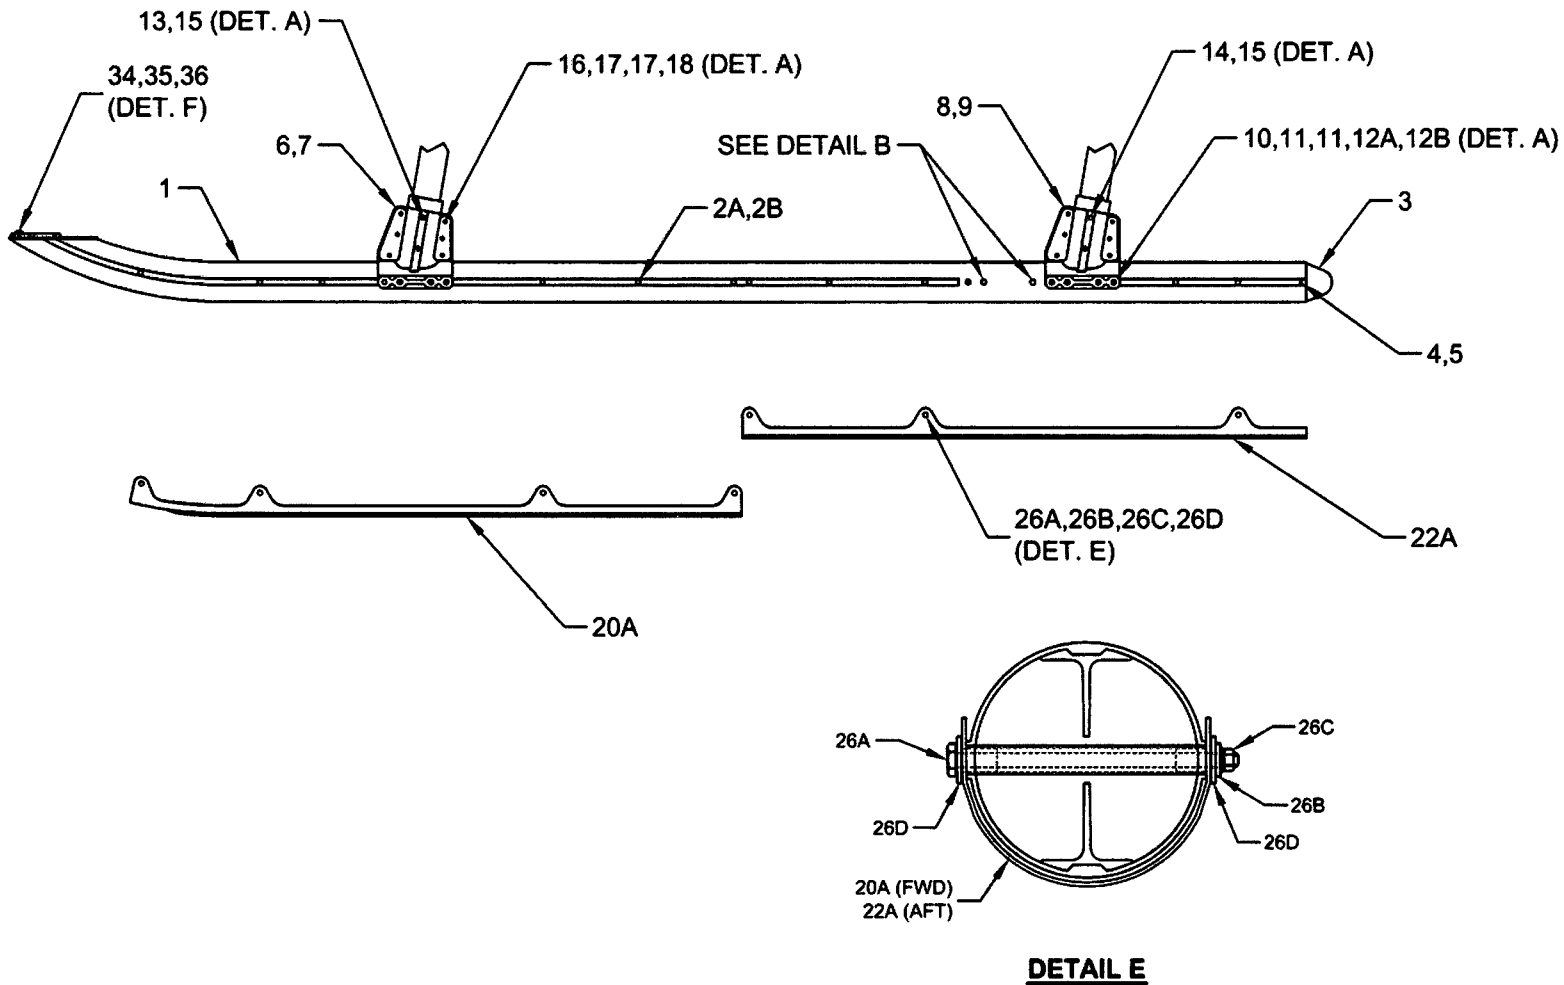

FIGURE 32-3: D206-642-113/-114/-215/-216/-217/-218 SKIDTUBE INSTALLATION
- 32.8.4 Re-install wearplate assemblies or replacement wearplate assemblies using AN3 bolts and associated hardware shown in Figures 32-3, 32-5, 32-7, 32-9 and 32-11. Torque bolts/screws to 15-25 in-lb (1.7-2.8 N-m).